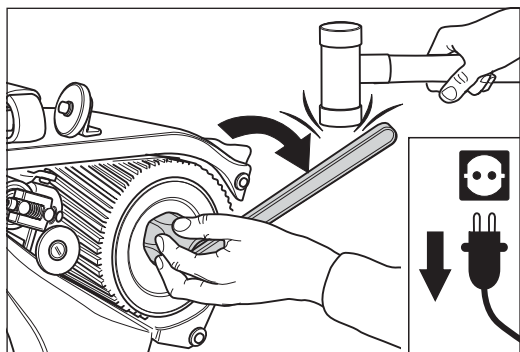

Fig. 48 Release the box nut (**left-hand thread**), if necessary by knocking gently with a soft hammer. **Never use a steel hammer!** Similar to figure.
- 8 Open the drum nut using the box wrench (see tool bag). Note that the drum nut has a **left-hand thread** (Fig. 48)! If necessary, take a soft hammer to help you loosen the nut. **Never use a steel hammer!**